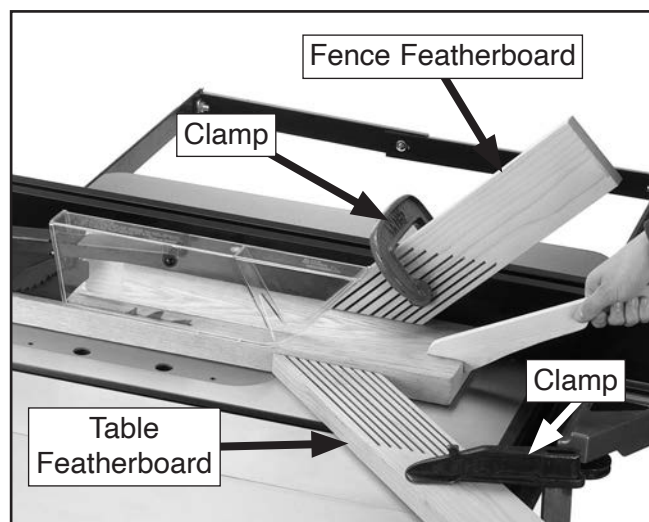

Figure 76. Example of featherboards secured with clamps.
3. Place a featherboard on table away from blade so all fingers point forward and contact workpiece (see **Figure 76**).